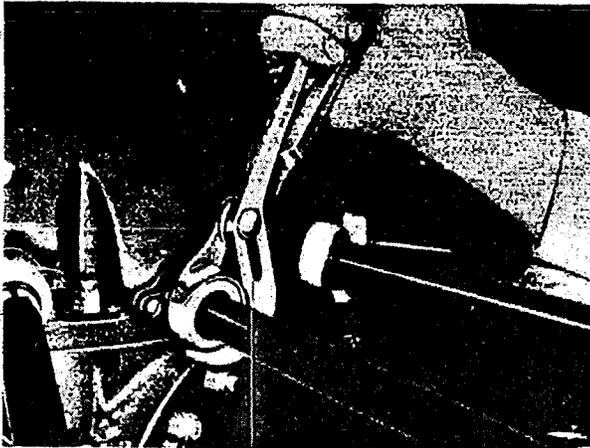

Figure 9 - Loosening Push Rod Cover Tube Packing Nut
h. Push Rod Cover Tubes, Push Rods, Rocker Covers, Rockers.- (1) Loosen packing nut at cylinder end first and push nut over cover tube.
(2) Use water pump pliers lined with aluminum or soft brass strip in order not to damage knurled nut. Refer to Figure 9.